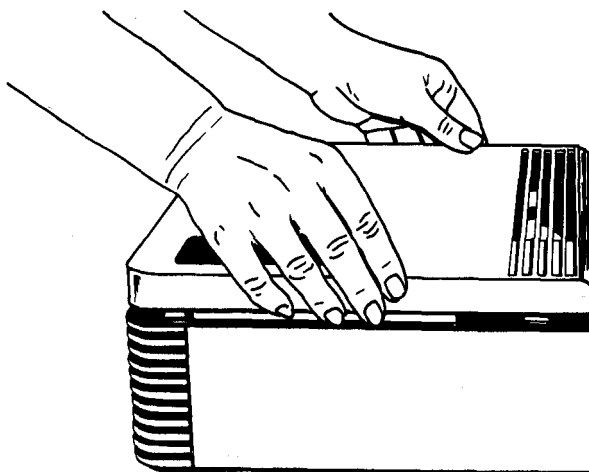
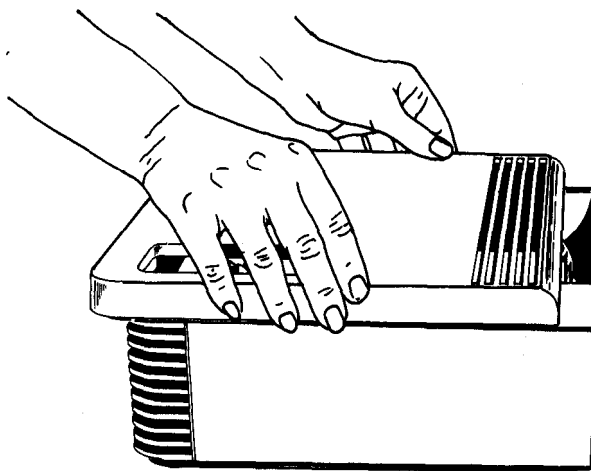
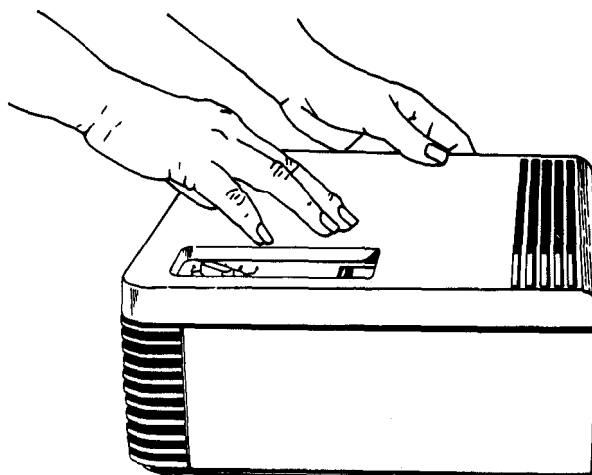

Figure 14
Figure 15
Figure 16
D. Replace cabinet top by positioning over the unit (Figure 14). Gently slide top forward until top engages locking tabs (Figure 15). Slide top until flush with the back of the unit (Figure 16).